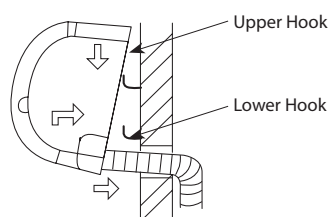
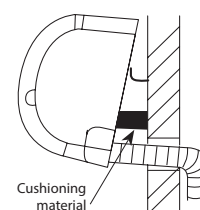

FIG. 10
FIG. 11
- 2 Put the upper claw at the back of the indoor unit on the upper hook of the installation plate, move the indoor unit from side to side to see that it is securely hooked (see Fig.10 & Fig.11).